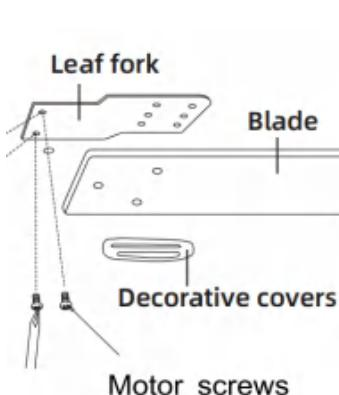

Figure 1
- 1) Fix the bracket and fan blade with screws in turn.(Figure 1)